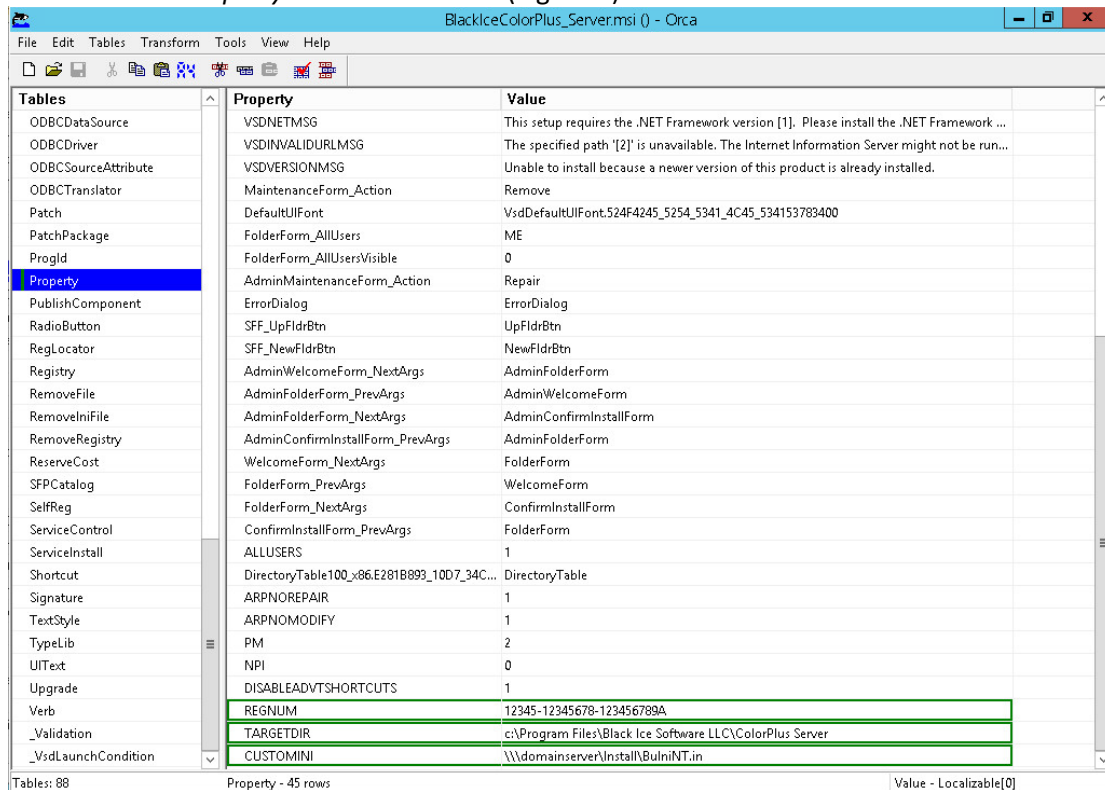

Figure 1
3. Select *Property Table* from tables (Figure 1).